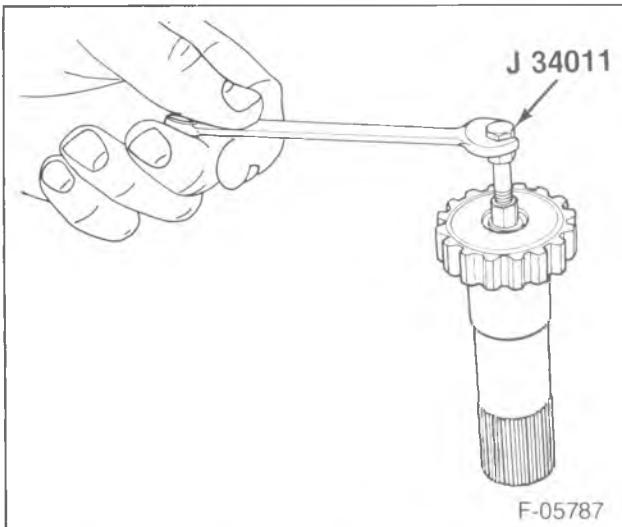

Figure 7—Removing the Pilot Bearing
11. Output shaft (23).
12. Differential pilot bearing (21). Use J 34011 (figure 7).